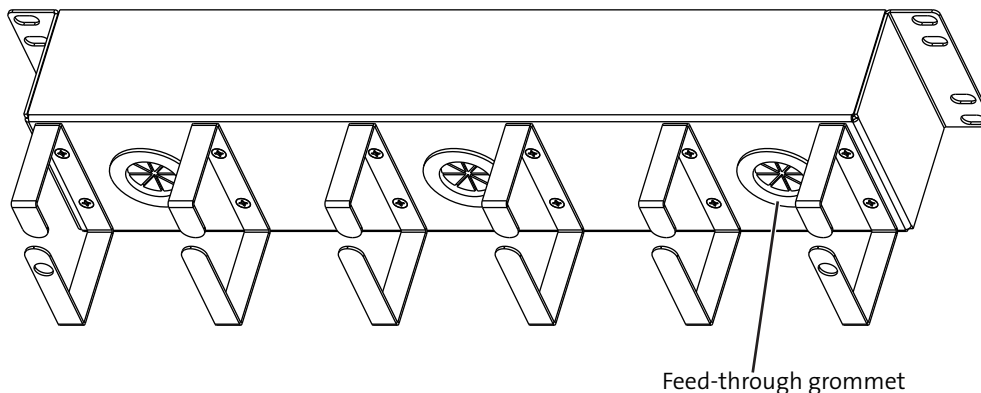

Figure 2
Step 2: Route the jumpers out the top and/or bottom of the patch field and through the management panel to either side of the equipment rack. If routing fiber from the front to the back of the rack, use the grommet ports shown in Figure 2. Cut the grommet at the perforation. Do not cut away the entire middle of the grommet.